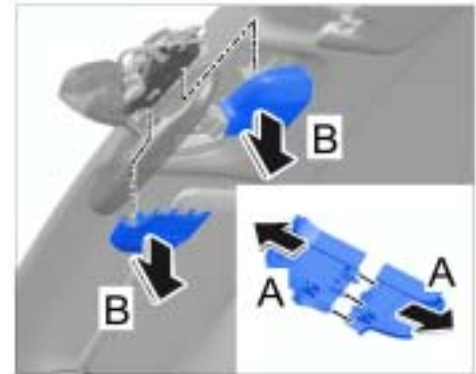

Figure 8
- 1.5 Remove covers ⇒ *Figure 8-B-* over the interior rear-view mirror. ⇒ *Workshop Manual '682719 Removing and installing interior rear-view mirror'*